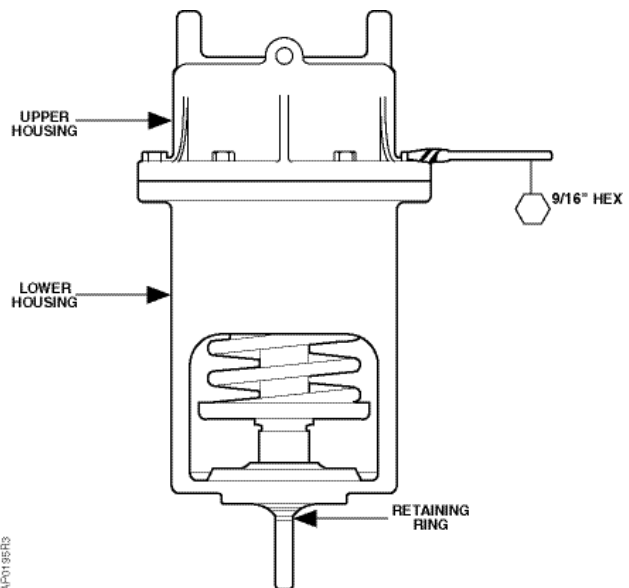

Figure 7.
- The retaining ring holds back the entire spring force. Make sure that the retaining ring on the shaft is next to the lower housing. See Figure 7.
1. Using the 9/16-inch hex wrench, first loosen and then remove the six bolts holding the upper housing to the lower housing. See Figure 7.